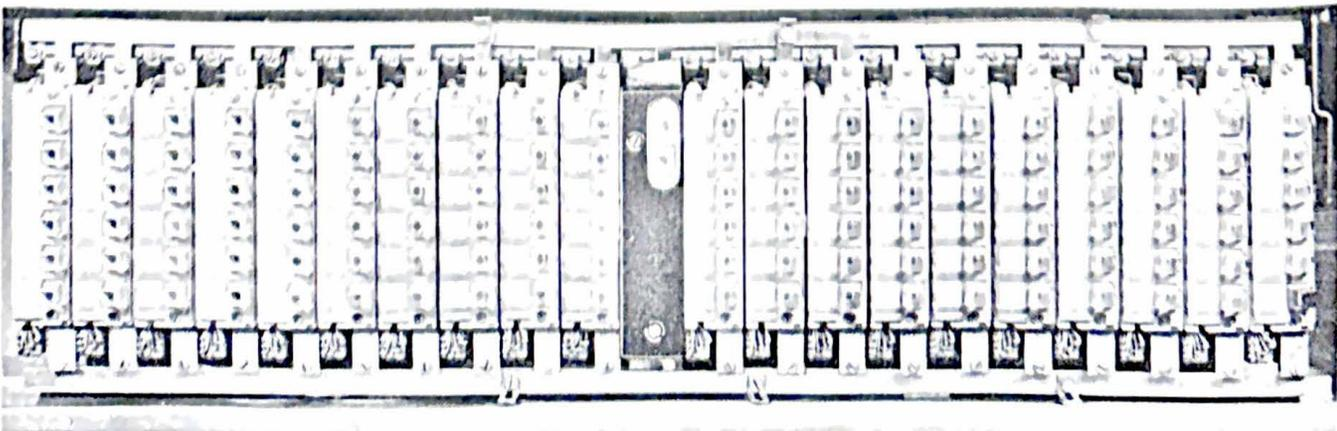

Fig. 8 — 404A Key Mounting, Faceplate Removed
6.01 Fig. 8 shows a typical 404A key mounting with keys in place.